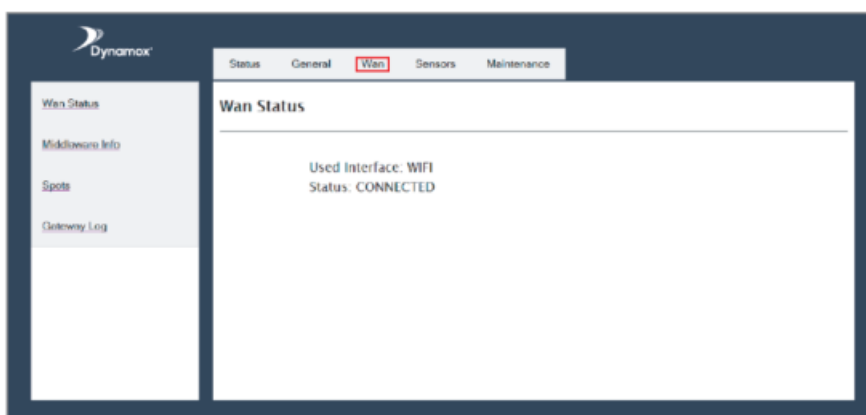

Figure 5 – DynaGateway home page
4. After logging in to the system, access the “Wan” tab on the top menu, according to figure 5.